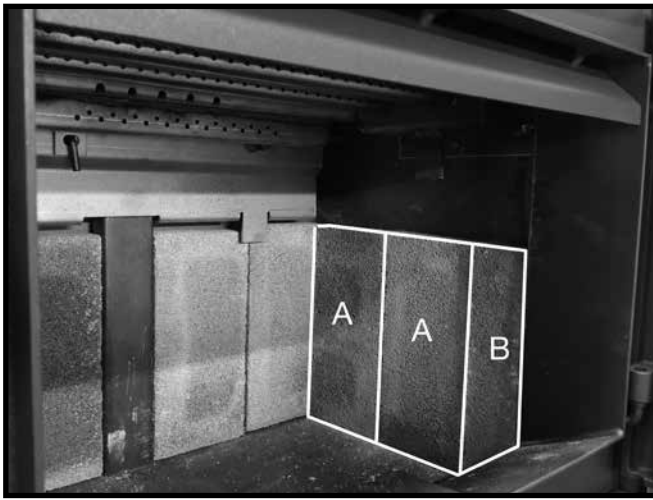

Figure 31: Lower side wall firebricks in place.
5. Stand another "A" brick beside the first one followed by a narrow "B" firebrick (Figure 31).